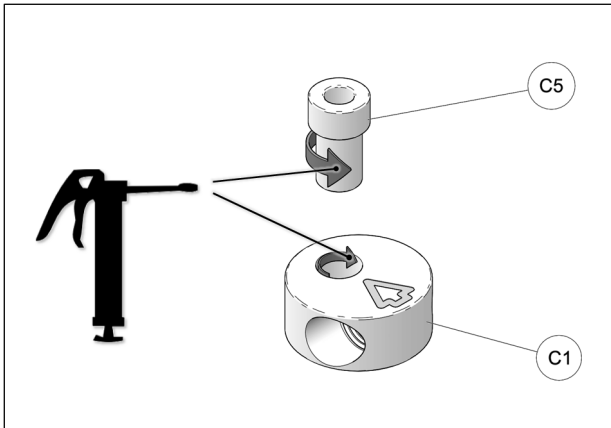

Fig. 25
15. Apply grease evenly all around step spacer bushing (C5) and in hole of aluminum disk (C1) when assembling these parts together. See Fig. 25